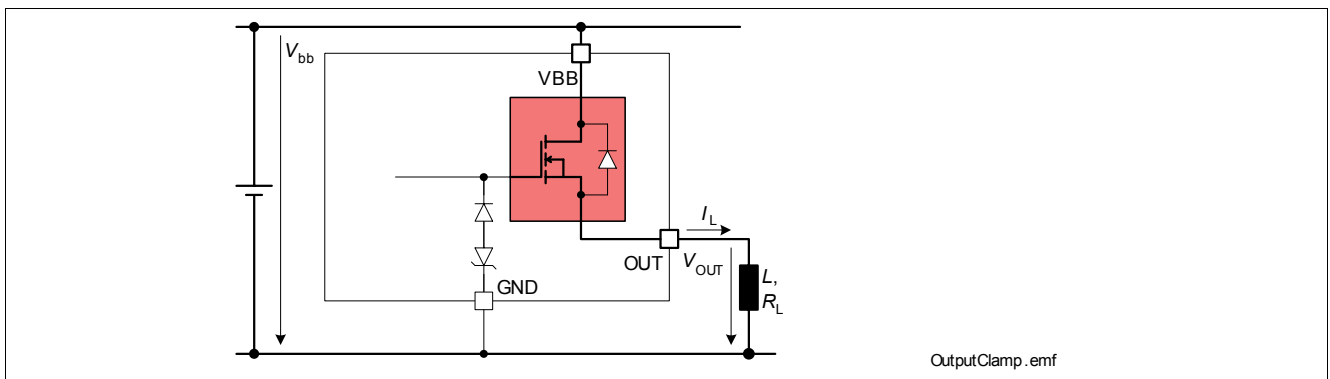
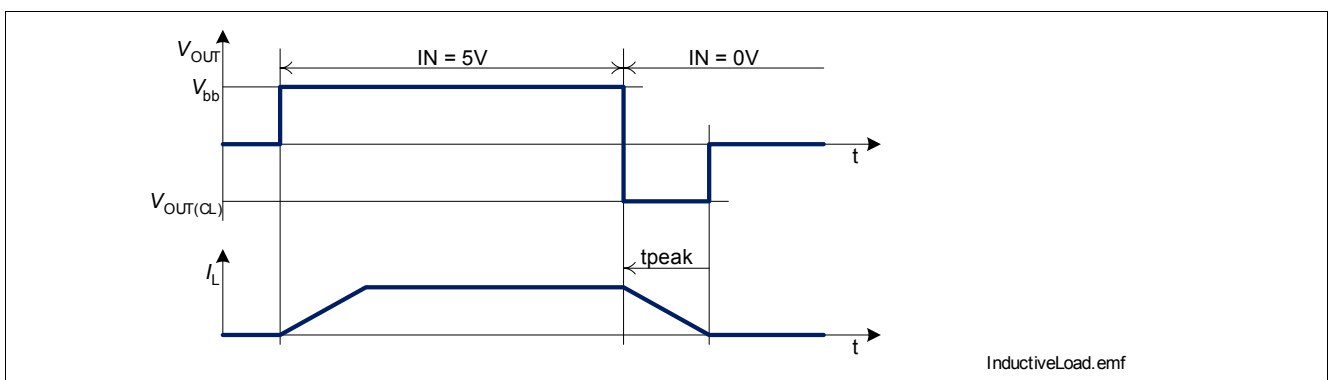

Figure 7 Output Clamp (OUT1 and OUT2)
Figure 8 Switching an Inductance
- 4) Pulse shape represents inductive switch off: $I_L(t) = I_L(0) * (1 - t / t_{peak})$; $0 < t < t_{peak}$. Please see Figure 8
To prevent destruction of the device, there is a voltage clamp mechanism implemented that keeps that negative output voltage at a certain level ($V_{OUT(CL)}$). See Figure 7 and Figure 8 for details. Nevertheless, the maximum allowed load inductance is limited.